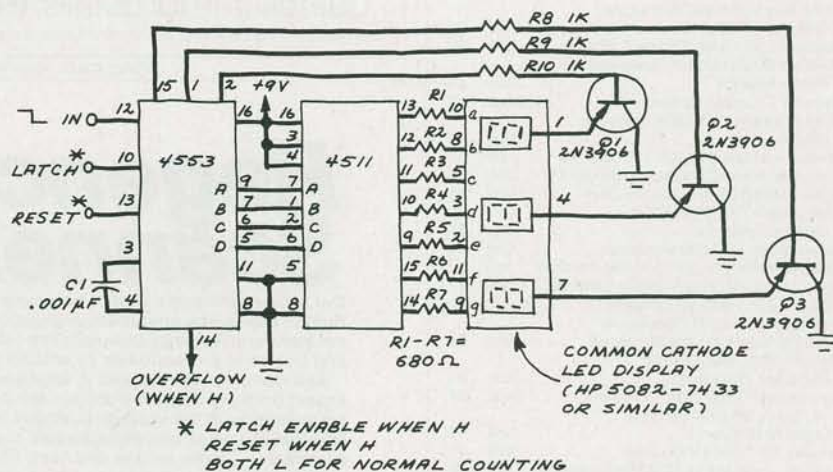

Fig. 1. Simplified block diagram of a 000-to-999 event counter.
**T**HE CIRCUIT in Fig. 1 functions as a simple 000-to-999 event counter. It can be used to count such events as rotations of a wheel or shaft, objects passing by a point, and even flashes of lightning. It can also be configured to count events whose amplitude exceeds a programmable threshold.